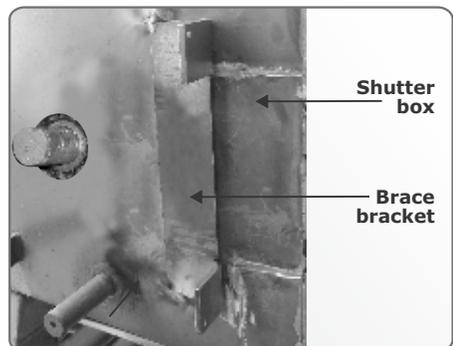

FIGURE 22
6. Weld the brace bracket onto the side of the shutter box as shown in Figure 22